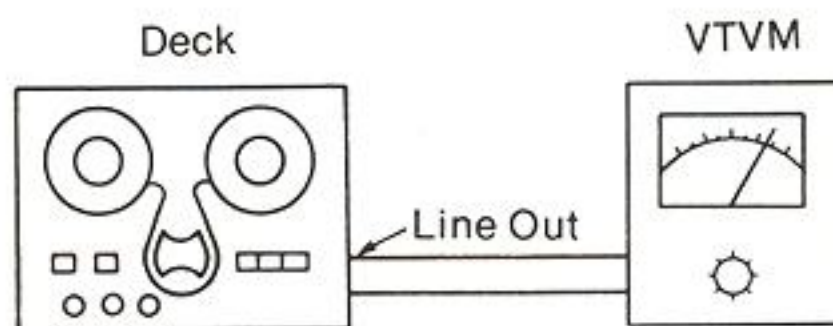

Fig. 29
- (1) Set the head selector to the 2-track position.
- (2) As shown in figure 29, connect a VTVM's to the line-output jacks.
- (3) Set to the 19cm/s tape speed.
- (4) Use 16kHz position (for azimuth adjustment) in test tape QZZOF190EX.
- (1) In the condition shown in figure 29, playback test tape QZZOF190EX.
- (1) In the condition shown in figure 29, playback test tape QZZOF190EX, and adjust the tilt-adjustment screw (D) so that output becomes maximum.